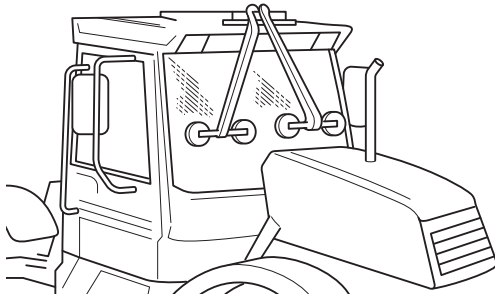

Fig 12. Typical M/c. Installation
- a Always use the special lifting tools when moving the glass. Use a lifting strap to hold large panes of glass in position. → Fig 12. (B-6).